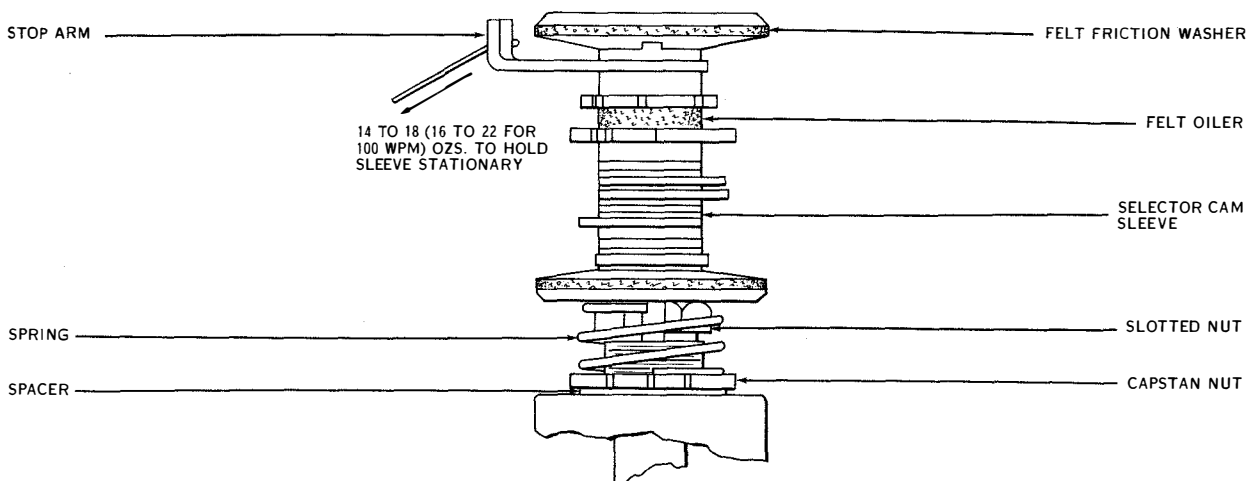

Figure 7-65. Selector Clutch
(86) SELECTOR CLUTCH. (See figure 7-65.)—A tension of 14 to 18 ounces (16 to 22 ounces for 100-wpm springs) should be required to hold the selector cam sleeve stationary while the shaft is running. To check, allow the motor to warm up for at least ten minutes with the cam sleeve held stationary. Hook a 32-ounce scale to the selector cam sleeve stop arm and pull at right angles to the stop arm. To adjust, position the capstan nut with a screwdriver.